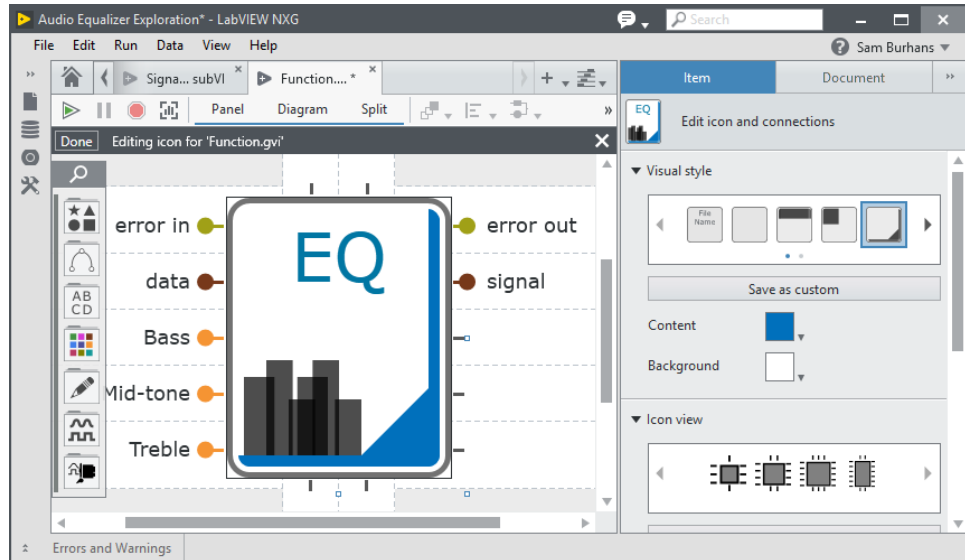

Figure 6-24 A good icon makes a subVI's functionality apparent in the top-level VI in which it is used.
- e. Depending on how you selected the code to go into your subVI, you may wish to adjust the wiring configuration. It is best to keep the inputs on the left and outputs on the right. The top and bottom are typically used for specifications and optional inputs. Figure 6-24 shows a good mapping of terminals for this exercise – adjust your icon to match.